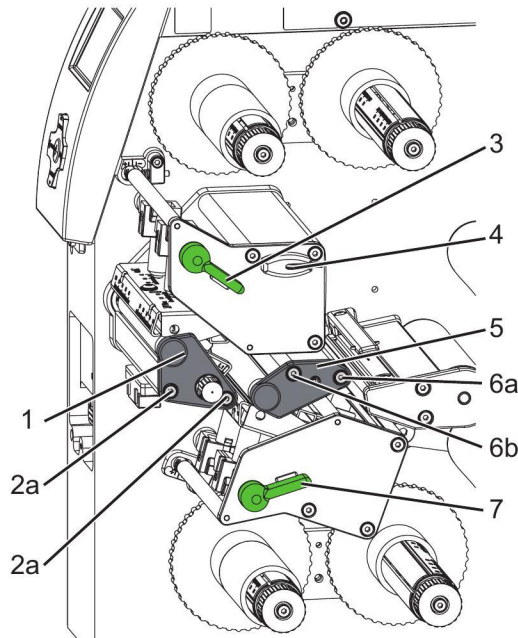

Figure 4-1 Removing the side plates
For adjustments and easy installation, use the **hexagonal wrench** provided, which is located on the upper print unit (4 in Figure 4-1 on page 4-4). No other tools are required for the work described here.
- Turn lever (3 in Figure 4-1 on page 4-4) counter clockwise and lever (7 in Figure 4-1 on page 4-4) clockwise to lift the printheads from the print rollers.
- Remove upper print roller (10) and lower print roller (11) from the shafts (8 + 9) in the housing.
- Secure the side plate (1) with screws. Tighten the screws (2) in the order a–b (see Figure 4-1).
- Secure the side plate (5) with screws. Tighten the screws (6) in the order a–b (see Figure 4-1).